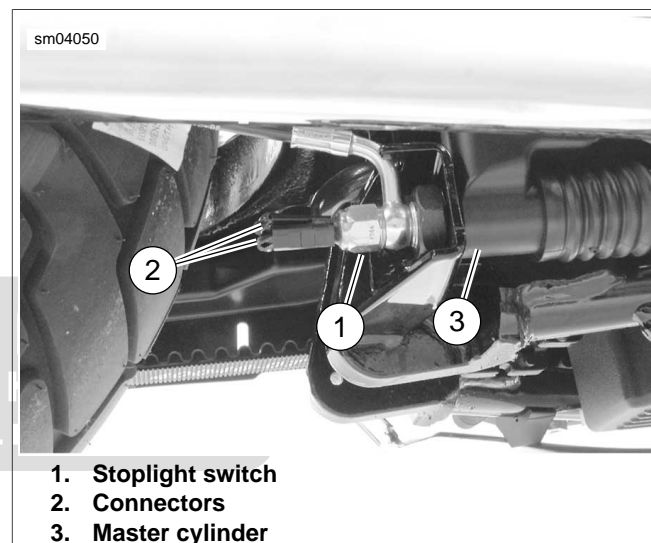

Figure 7-69. Rear Stoplight Switch
See Figure 7-69. The rear stoplight switch monitors brake fluid pressure in the rear brake line. When pressure in the line reaches a preset level, the rear stoplight switch is tripped and illuminates the tail light/stoplight.
1. See Figure 7-69. Remove both connectors (2) from rear stoplight switch (1).
2. See Figure 7-69. Install rear stoplight switch (1). Tighten switch to 12-15 ft-lbs (16.3-20.3 Nm).
3. Install both switch connectors (2).